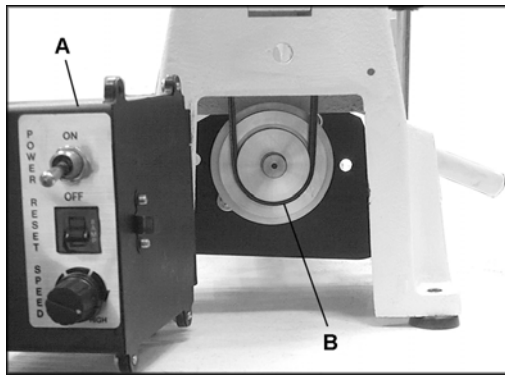
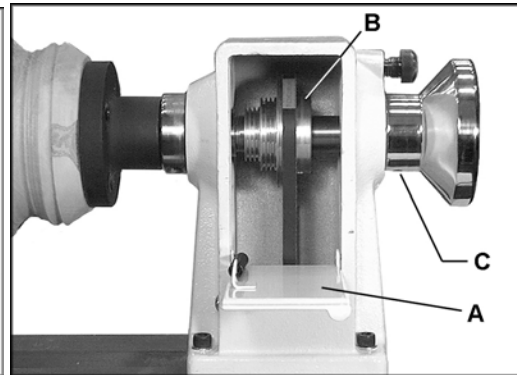

Figure 10
Figure 11
2. Pull open the control box at the left side of the base (A, Figure 10), and the access door at the back side of the headstock (A, Figure 11) to expose the pulleys.
4. Move the belt (B, Figure 10) to the desired pulley groove according to the speed chart found on the inside of the headstock access door. Be sure the belt is aligned with spindle pulley and motor pulley.
2. Open the access doors at the left side of the base (Figure 10), and at the back side of the headstock (Figure 11).
4. Loosen the set screw (B, Figure 11) on spindle pulley (upper).
5. Loosen two set screws in handwheel (C, Figure 11). Unscrew the handwheel while holding onto the spindle.